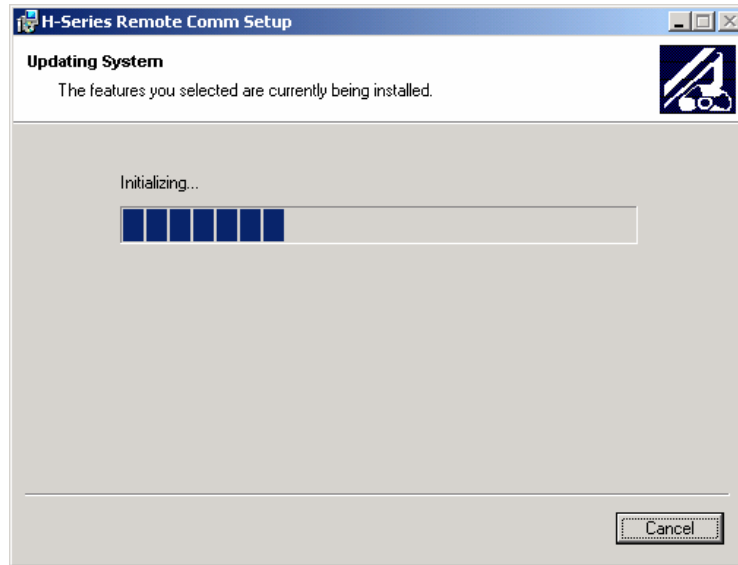

Figure 64 Installation Initializing Screen
7. The next screen shows the system processing the installation request. (Refer to Figure 64.)